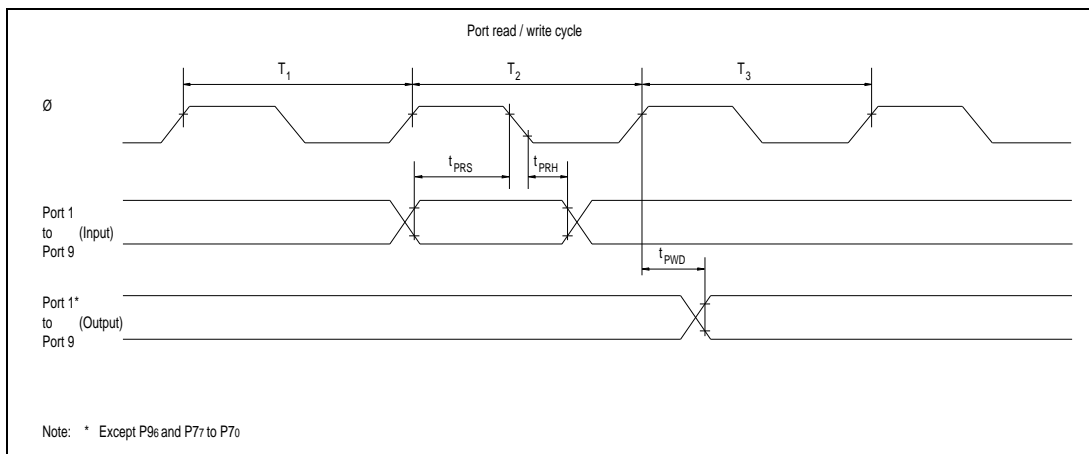

Figure 16-18. I/O Port Input/Output Timing
16.3.7 I/O Port Timing	Figure 16-18